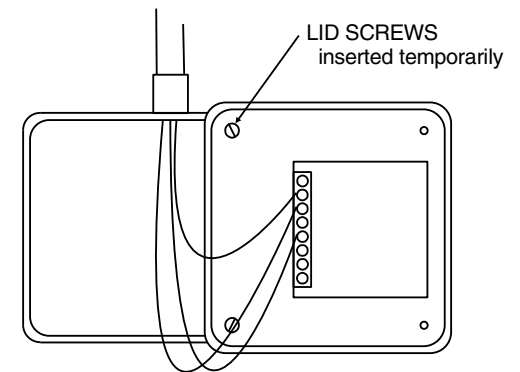

FIG 3
- e. Attach cover to box temporarily using two screws as shown in figure 3 and connect wires appropriate to the wiring layout, e.g., single, or multiway.